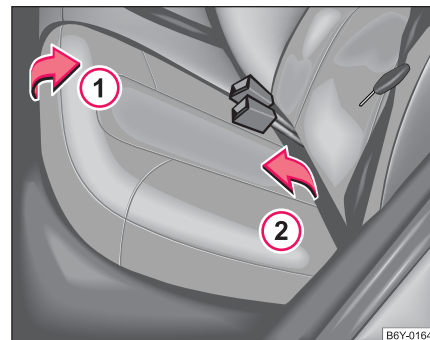

Fig. 48 Folding the rear seats forwards
- Pull up the rear seats in the direction of arrow ① ⇒ page 67, fig. 48 and fold forwards in direction of arrow ②.